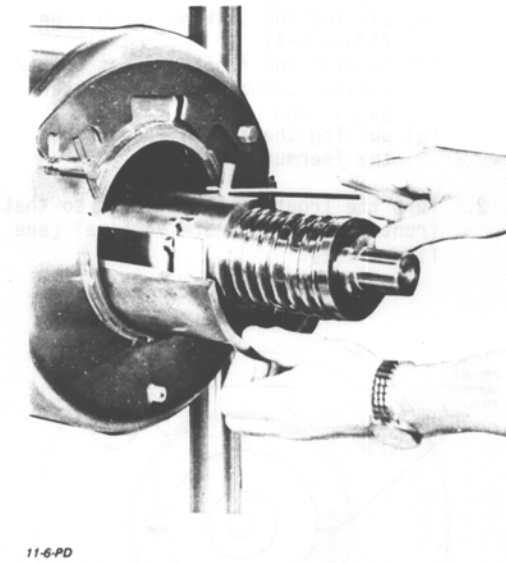

Figure 5-3. Pulling the Mutator and Trough from the Thermutator
4. Using the special mutator removal hook provided (see figure 5-3), pull both the mutator and trough from the Thermutator.